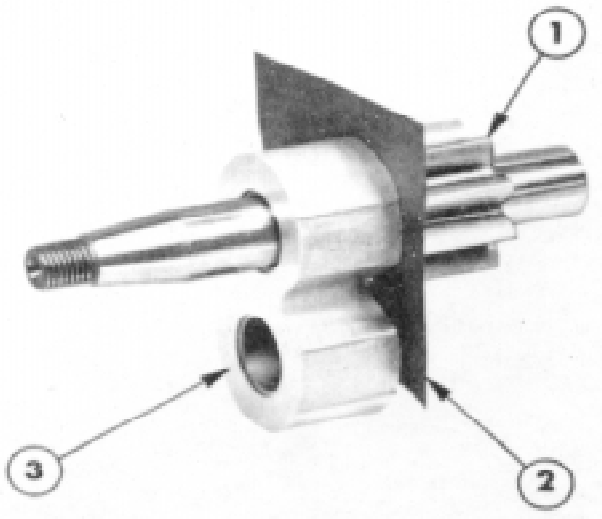

Figure 56
4. Examine the gears for scored or worn side faces or journals, damaged teeth, thread or key way and surface cracks. Slight wear and scoring on the journals may be erased by mounting between lathe centre and polishing with "O" grade emery paper lubricated with paraffin. Lightly scored side faces may be renovated by sandwiching emery paper between the gear face and a scrap bearing and rotating the gear, Figure 56.
Assemble the bearings with the Y - shaped recesses adjacent to the gear faces and the relieved radii facing the outlet side of the body, see Figures 56 and 58.